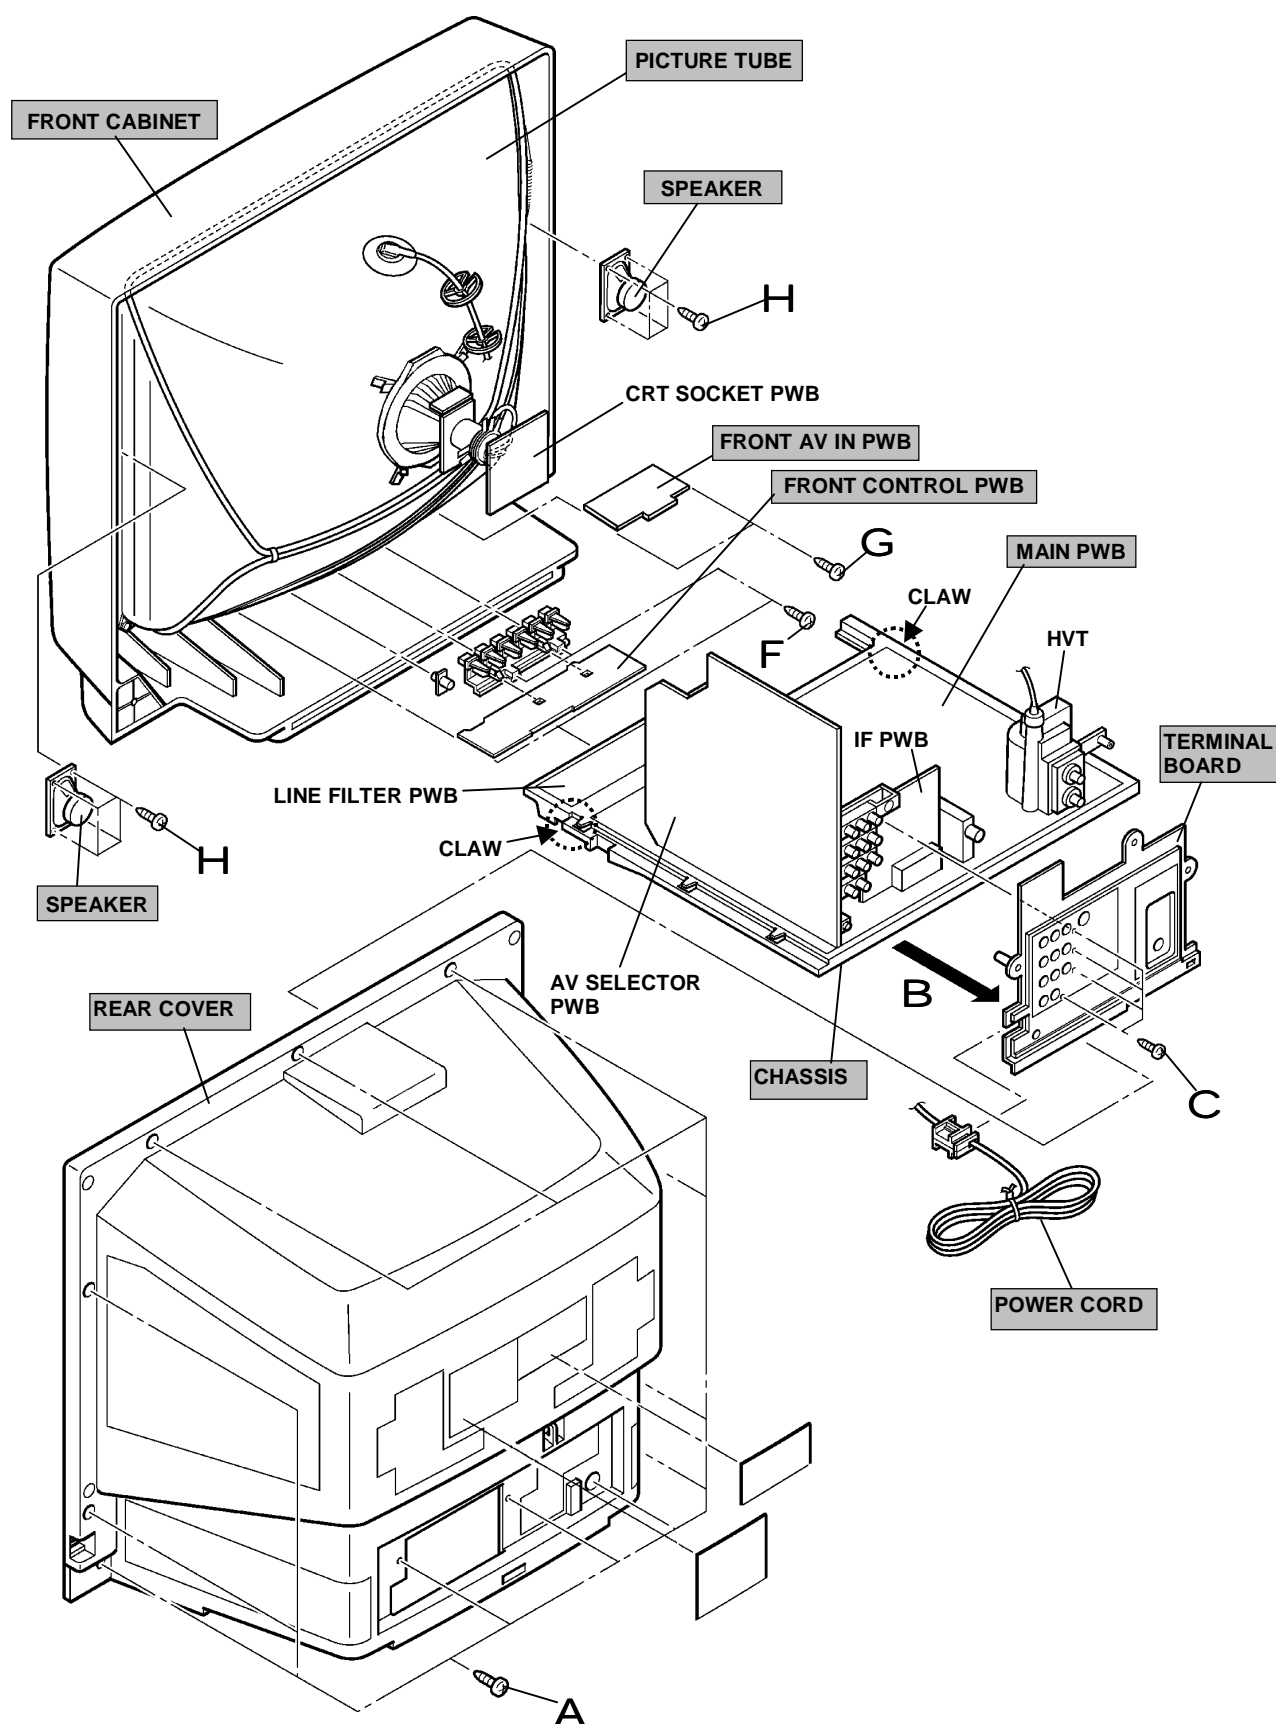

Fig. 2
1. Remove the **12** screws marked **A** as shown in Fig.2.
2. As shown in the Fig.2, withdraw the chassis backward along the rail in the arrow direction marked **B** .
1. As shown in Fig.2, remove the **4** screws marked **C** .
1. As shown in Fig.2, remove the **3** screws marked **F** .
1. As shown in Fig.2, remove the **2** screws marked **G** .
1. As shown in Fig.2, remove the **4** screws marked **H** .